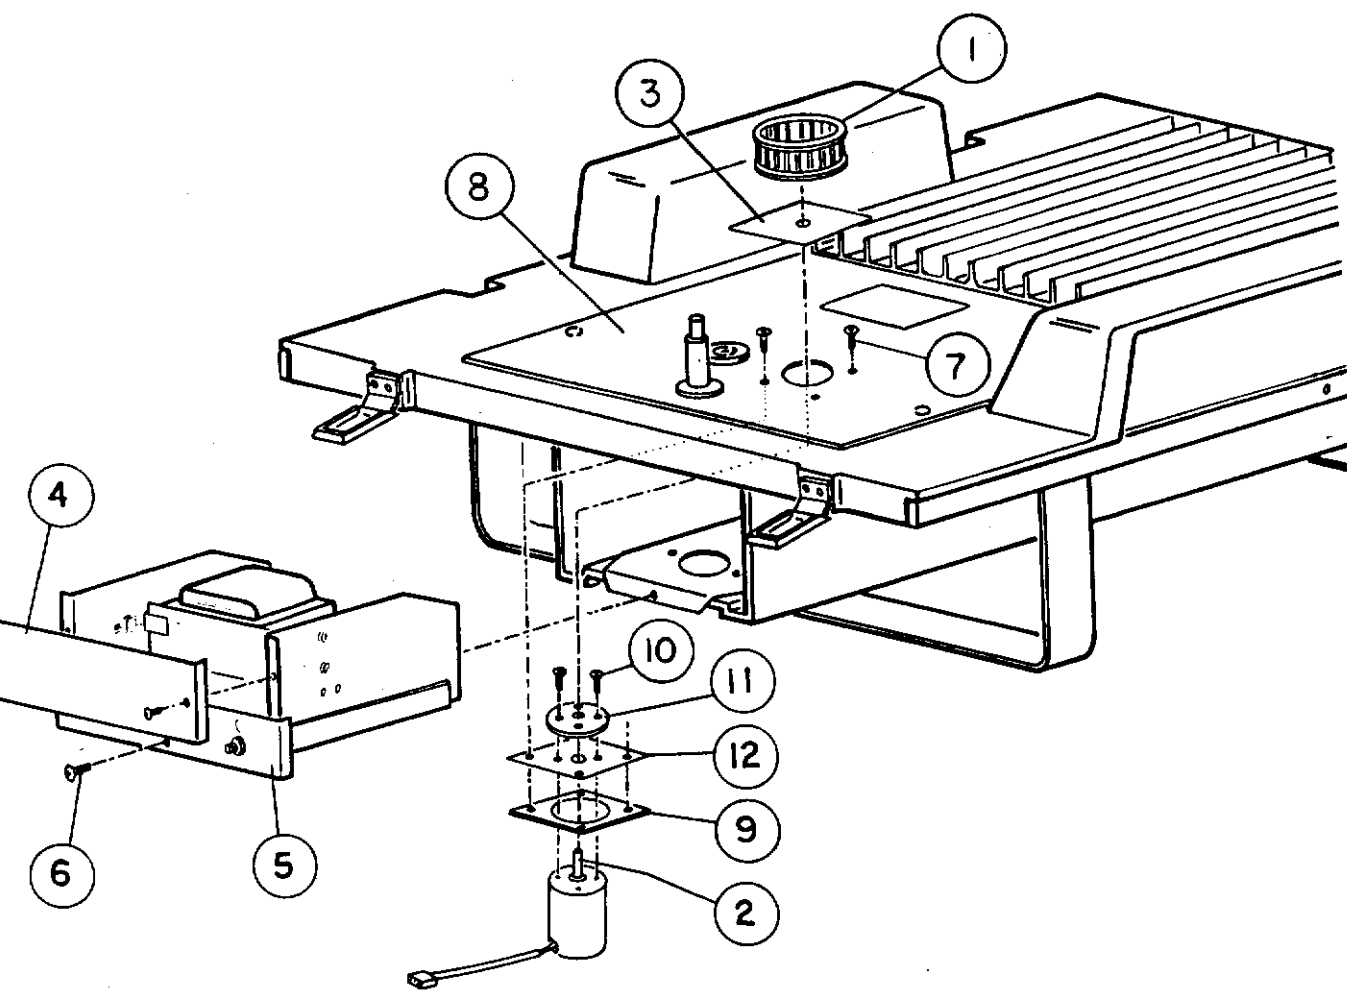

FIGURE 5.2 REMOVAL OF CYLINDRICAL MOTOR ASSEMBLY
- B. Refer to Figure 5.2. Remove the Impeller (item 1) from the Fan Motor shaft (item 2) and discard the Impeller.